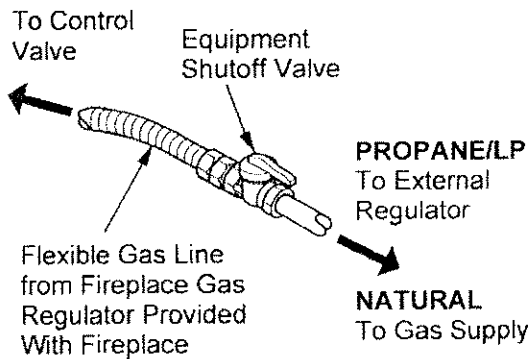

Figure 23 - Attaching Flexible Gas Line to Equipment Shutoff Valve
3. Apply pipe joint sealant lightly to male threads of gas connector attached to flexible gas line/equipment shutoff valve (see Figure 23, page 18).